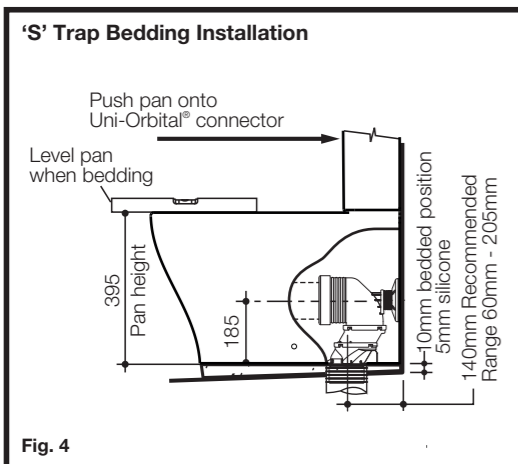

Fig. 4
- 5- Position and push pan into Uni-Orbital® connector using the marked centre line on the wall as a guide and level pan into bedding mixture, so that the back of the foot of the pan is approximately 10mm above the finished floor as detailed in Fig. 4. It is recommended that wedges are used to support the foot of the pan during the positioning.